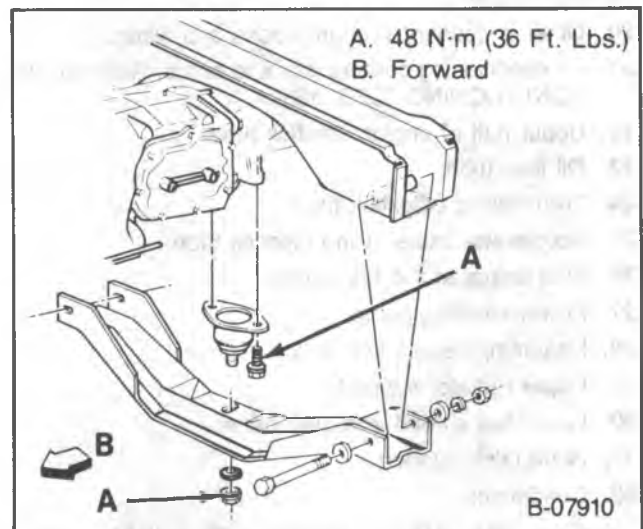

Figure 38—Rear Engine Mounting
Remove or Disconnect (Figure 38)
Install or Connect (Figure 38)
- Fasteners to specifications. Refer to figure 38.